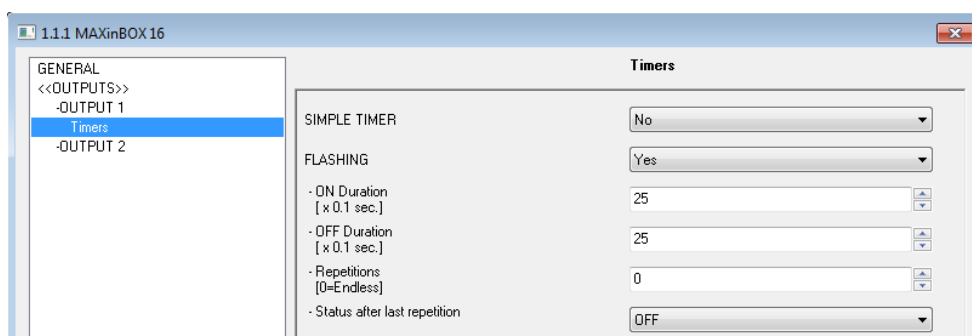

Figure 9 Flashing
- **Flashing** (Figure 9). This function allows the execution of alternating ON-OFF sequences when needed. It is possible to parameterise the ON and an OFF time lengths, as well as the number of repetitions (the value “0” makes the sequence endless, until a “0” is received through the “[OX] **Flashing**” communication object). It is also possible to define the final status (ON or OFF) of the output after the last repetition.